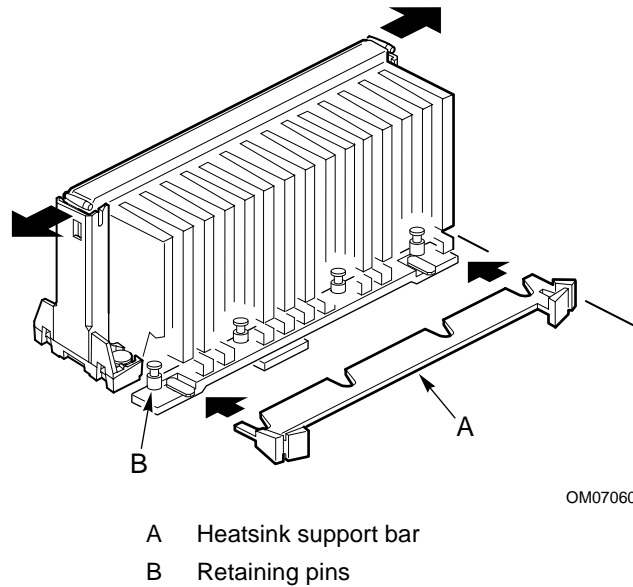

Figure 6. Installing the Heatsink Support Top Bar
- Slide the top heatsink support bar onto the retaining pins of the support's base as shown in Figure 6.